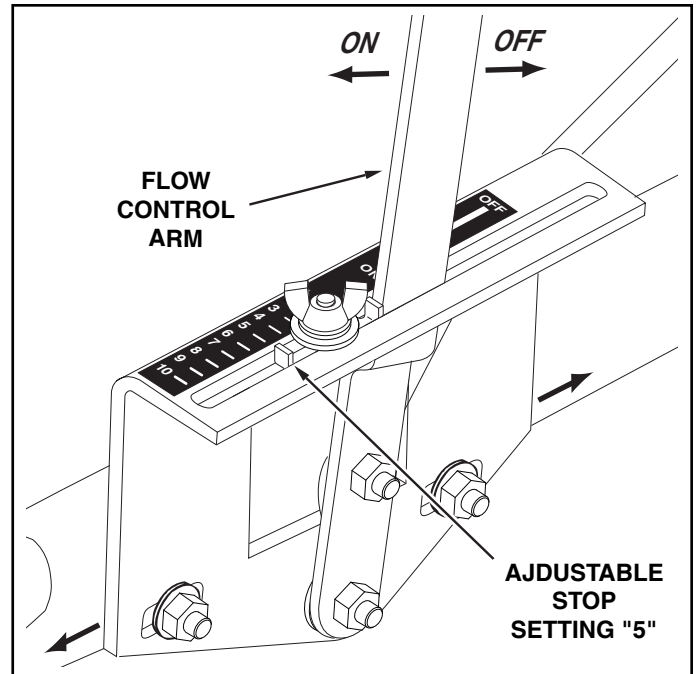

FIGURE 13
STEP 13: (SEE FIGURE 13)
(Refer to figure 13 on page 7.)